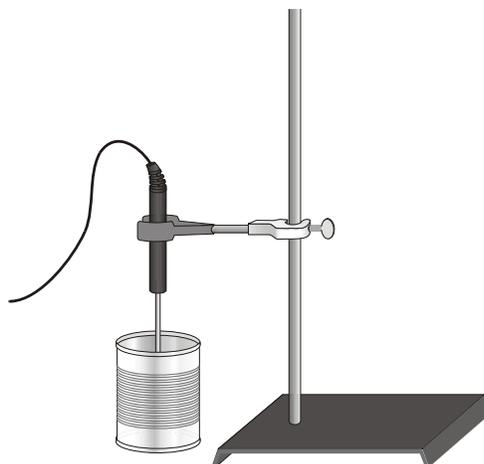

Figure 2
12. Lower the Temperature Probe into the water (to about 1 cm from the bottom) as shown in Figure 2. Click the Store Latest Data Set button (☰) to save the first run data.